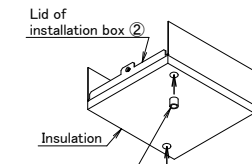

Figure 3
- (1) Insert spacers (7) (2 pcs.) into the holes in the thermal insulation material affixed to the lid of installation box (2). (Refer to Figure 3)